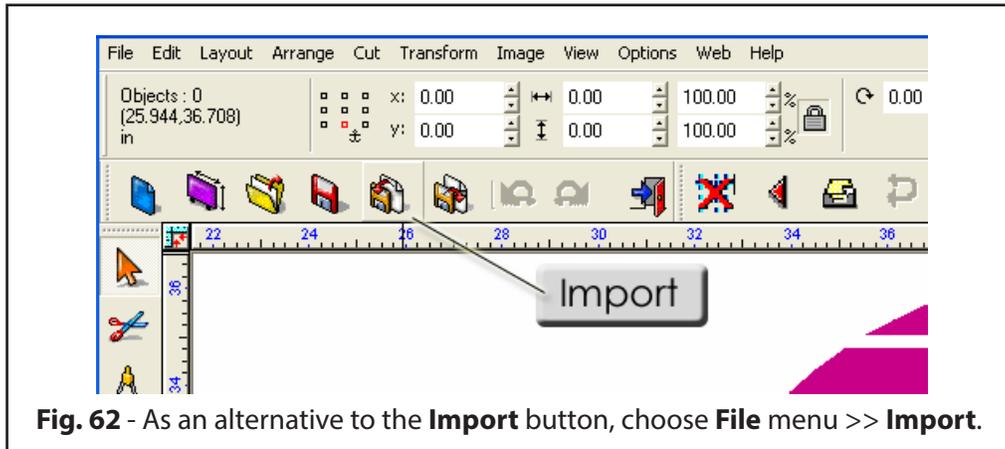

Fig. 62 - As an alternative to the **Import** button, choose **File** menu >> **Import**.
1. From the System toolbar (one of the default toolbars), locate the Import button (Fig. 62).